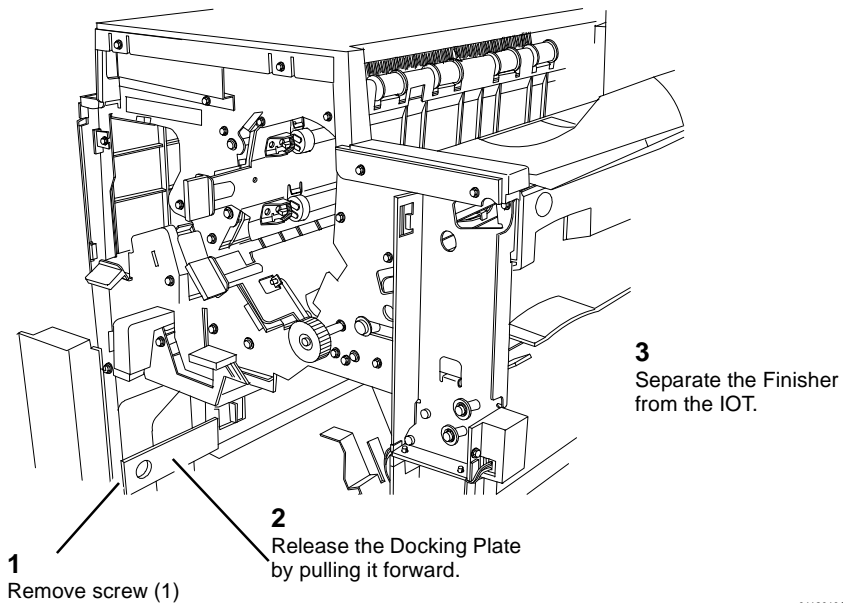

Figure 2 Separating the Finisher from the IOT
7. Separate the Finisher from the IOT (Figure 2).